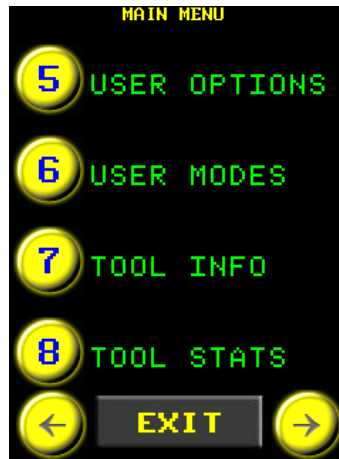

Figure 5.7-1: Main Menu
5. Select "User Options" from the Main Menu (Figure 5.7-1).